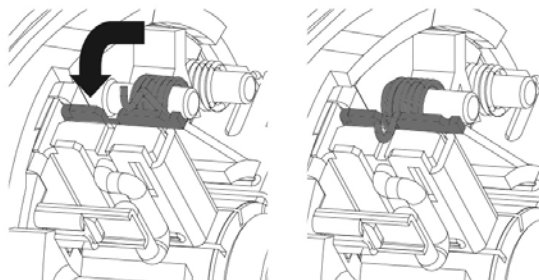

Fig.8
(8). To pull right and left sides of springs by arrow direction. ( See Fig.8)